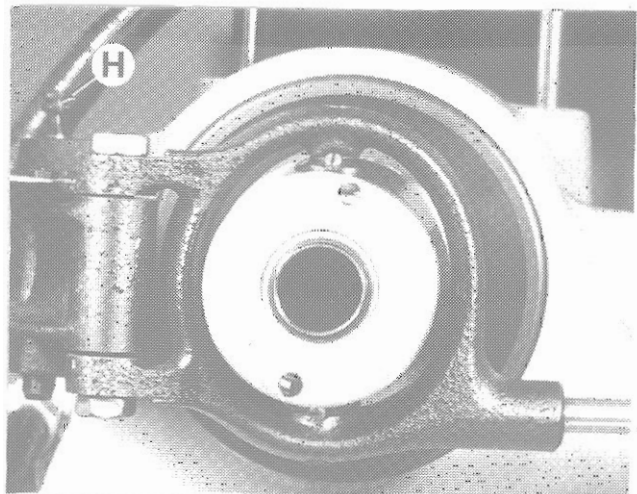

Figure 10.4 - #21 Collet Closer
4. Remove pin "H", Figure 10.4.
4. Replace pin "H", Figure 10.4.